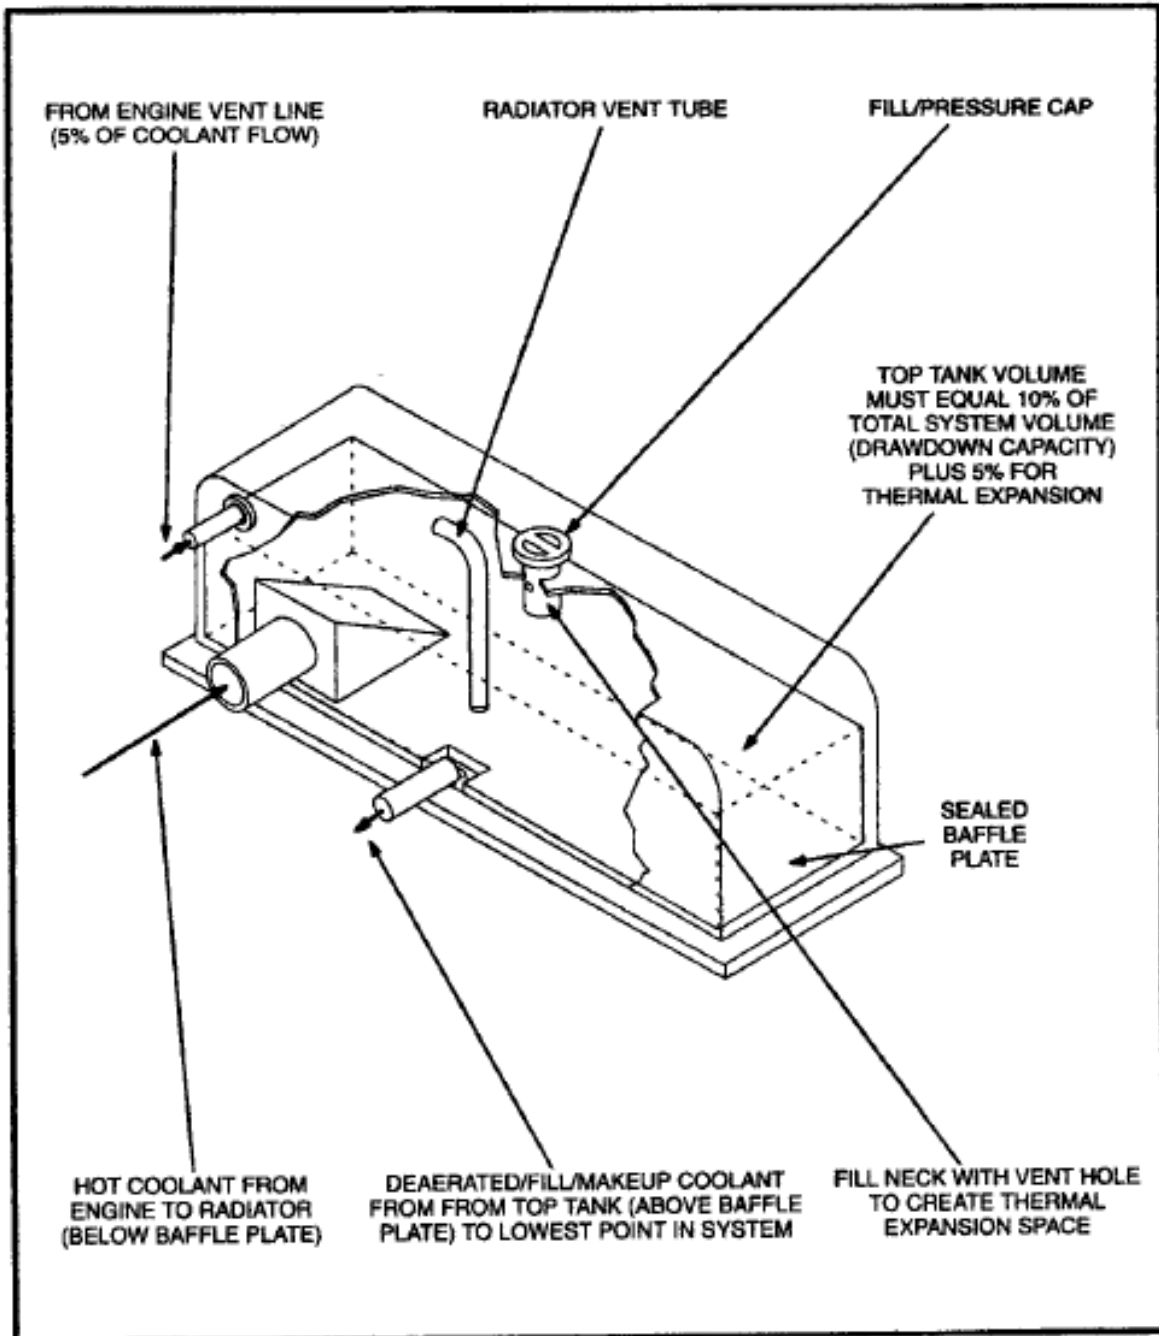

FIGURE 27. DEAERATION TYPE OF RADIATOR TOP TANK
- The capacity of the radiator top tank or auxiliary tank must be equivalent to at least 15 percent of the total volume of coolant in the system to provide a coolant "drawdown capacity" (10 percent) and space for thermal expansion (5 percent). Drawdown capacity is the volume of coolant that can be lost by slow, undetected leaks and the normal relieving of the pressure cap before air is drawn into the coolant pump. Space for thermal expansion is created by the fill neck when a cold system is being filled. See Figure 27.